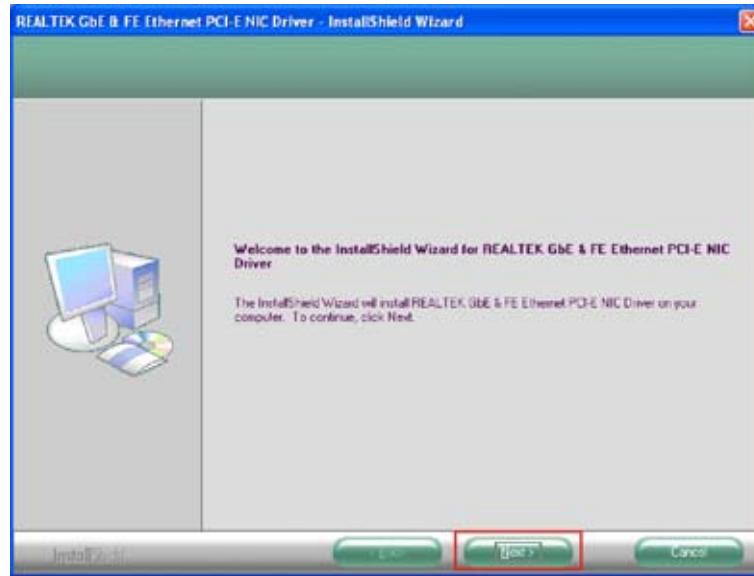

Figure 7-16: LAN Driver Welcome Screen
Step 38: The **Welcome** screen in **Figure 7-16** appears.